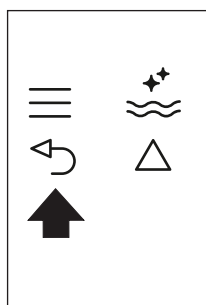

Fig. 25
- ▶ Press the icon ↶ (B6) (Fig. 25) twice to exit the menu.